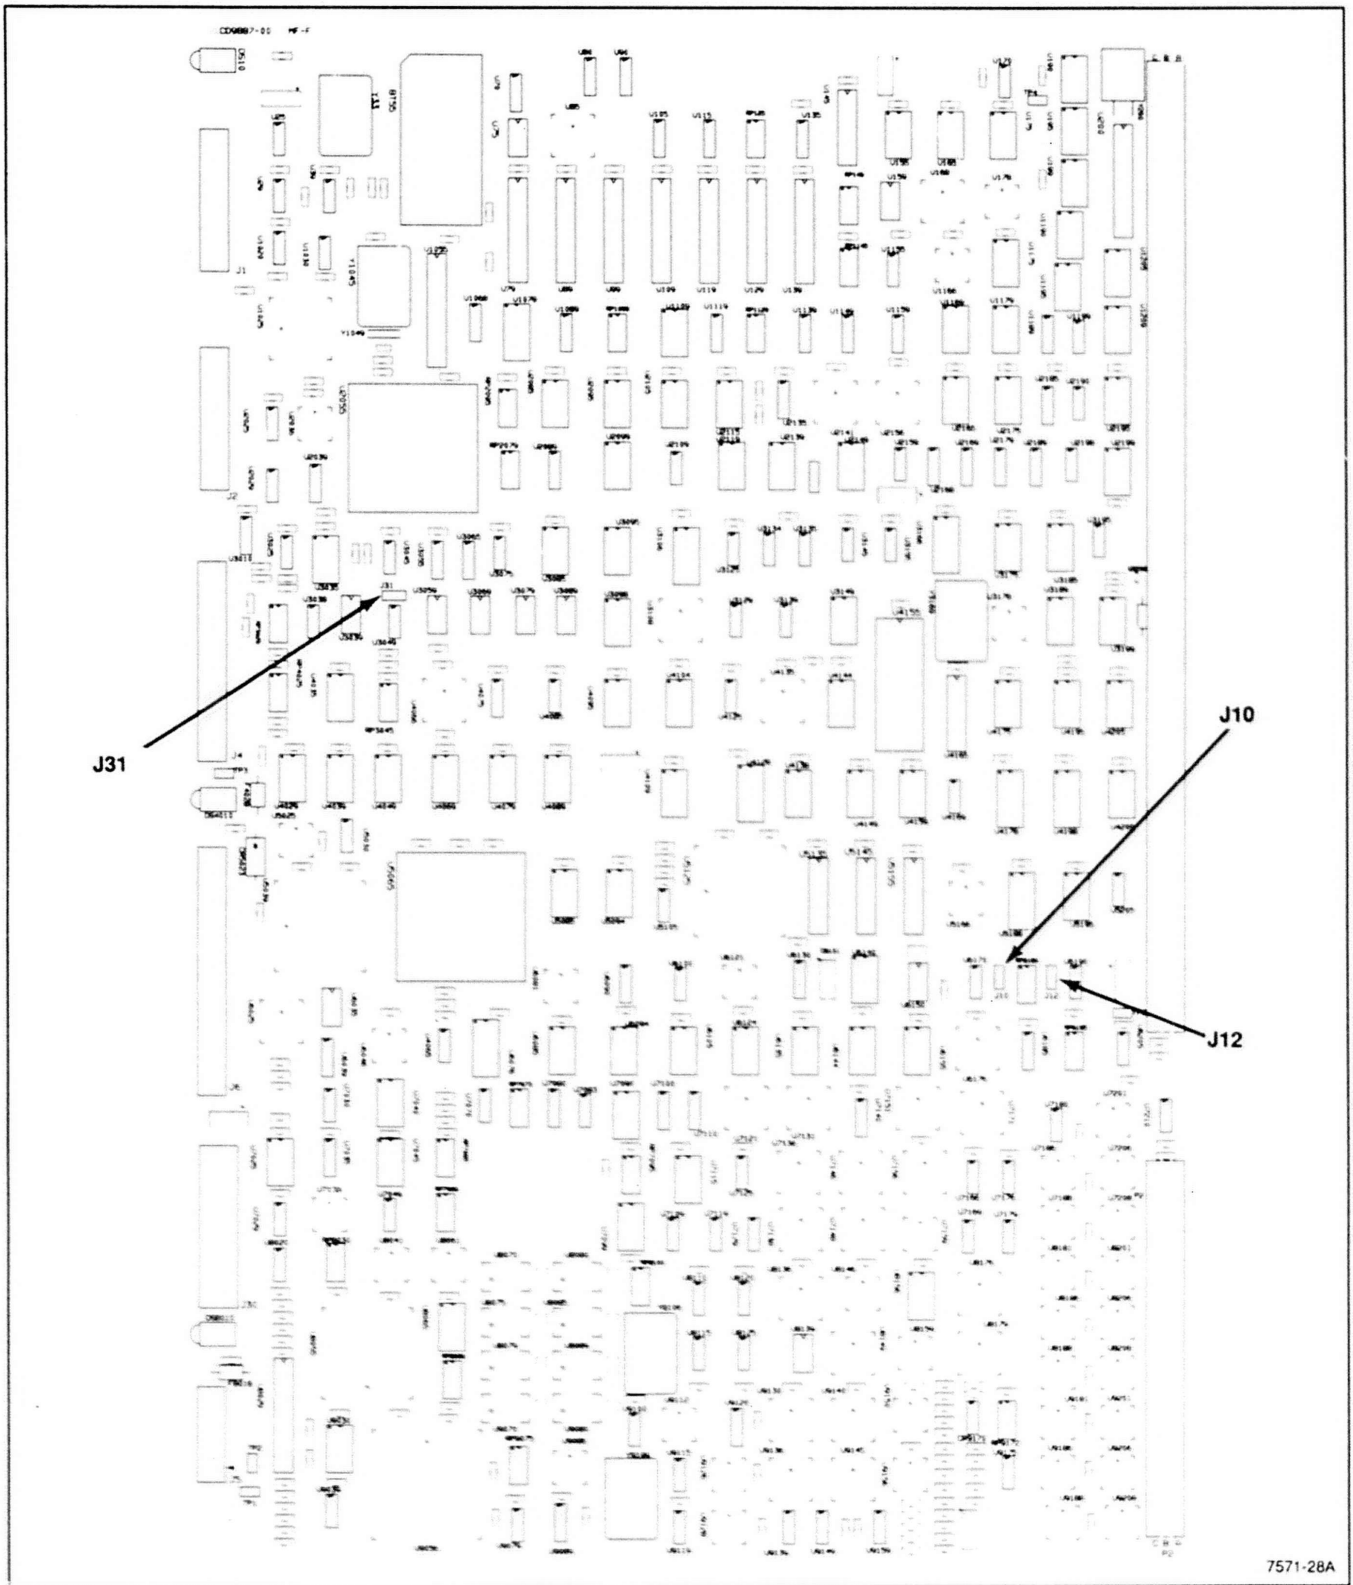

Figure B-2. IO Board Straps.
*The following straps (J10, 12, 31) are for board test only. For normal operation, they are left unjumpered. See Figure B-2.*